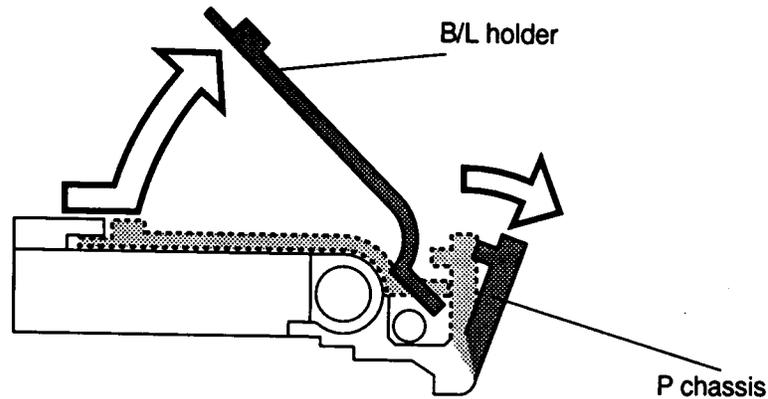

Figure 4-28 Removing the B/L holder
10. Gently hold down the LCD module and lift one side of the **B/L holder** as shown in Figure 4-28. As you lift the B/L holder the **P chassis** securing the holder will rotate out.
11. When the **B/L holder** is free, lift it out. Be careful not to lift the **B/L holder** too high or apply pressure to the **P chassis** (Figure 4-28).
2. Gently pull back the **P chassis** and place the **B/L holder** between the reflector sheet and the P chassis (Figure 4-28).